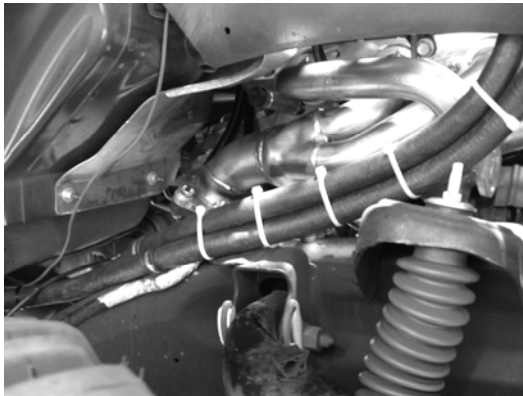

Figure 5
1. Beginning with the passenger side, place the Borla Performance Stainless Steel header in position shown in figure 5 using the supplied gaskets and hardware. Torque the Stage 8 locking header bolts 20-23 ft. lbs. Do not install the locking clips and retainers at this time.